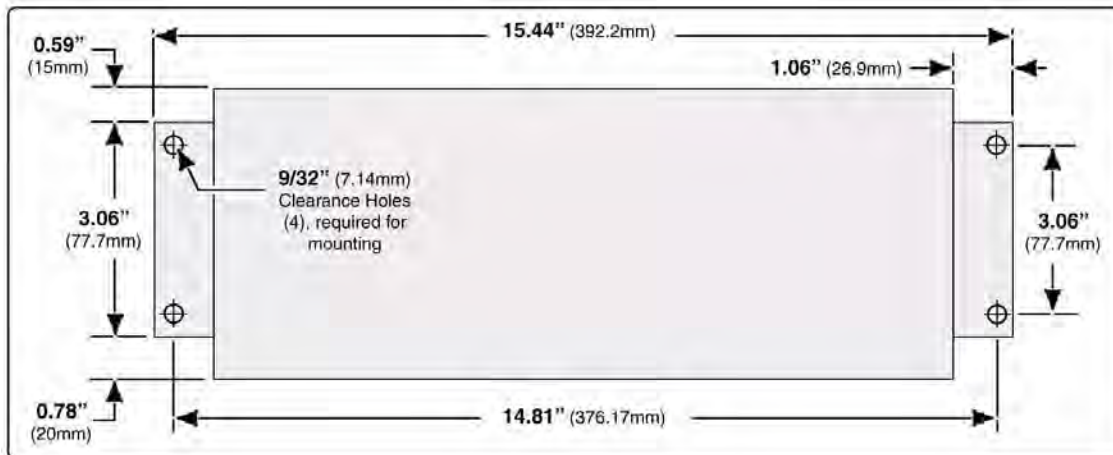

Figure 3-3: “X” Series Control Panel Dimension Layout
5. Locate and install the control panel on the apparatus. A dimensional drawing is provided for mounting hole location. (See Figure 3-3: ““X” Series Control Panel Dimension Layout.”)